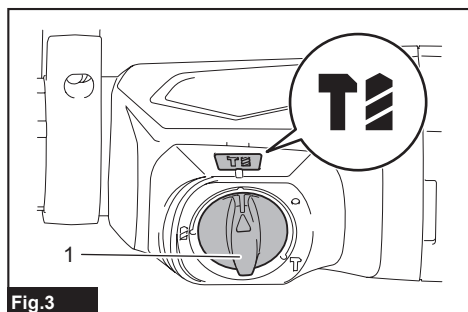

Fig.3
► **Fig.3:** 1. Action mode changing knob